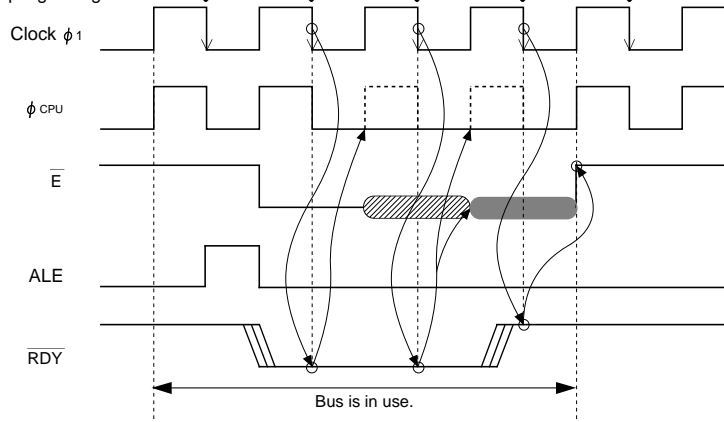

Fig. 12.3.1 Timings when ready state is accepted and terminated
- When the level of signal \overline{E} is “H” while the bus is in use (Refer to ② in Figure 12.3.1.)
- Immediately before a wait generated by the software wait (Refer to ⑤ in Figure 12.3.1.)
When “L” level is input to pin $\overline{\text{RDY}}$, this signal is accepted at the falling edge of clock ϕ_1 and the microcomputer enters the ready state. The ready state can be terminated by setting pin $\overline{\text{RDY}}$'s level to “H” again. When “H” level is input to pin $\overline{\text{RDY}}$, this signal is also accepted at the falling edge of clock ϕ_1 and the ready state is terminated. Figure 12.3.1 shows timings when the ready state is accepted and terminated.